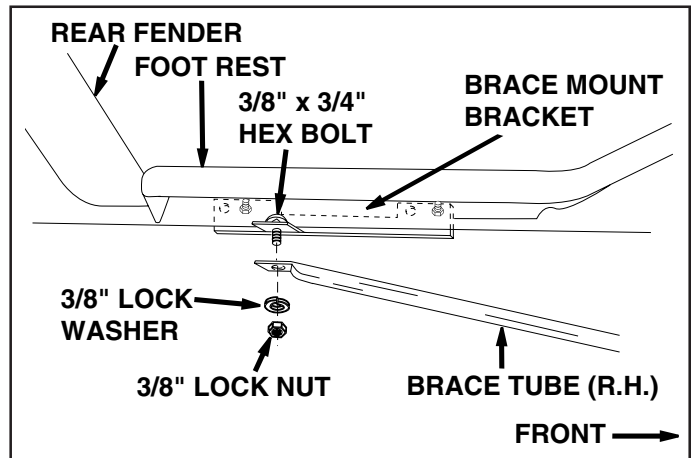

FIGURE 7 (Right Hand Side View)
- Attach brace tube to brace mount bracket using the 3/8" x 3/4" hex bolt already assembled in previous step. Secure with a 3/8" lock washer and 3/8" lock nut. Repeat this step on opposite side. **Do not tighten at this time.** See figure 7.